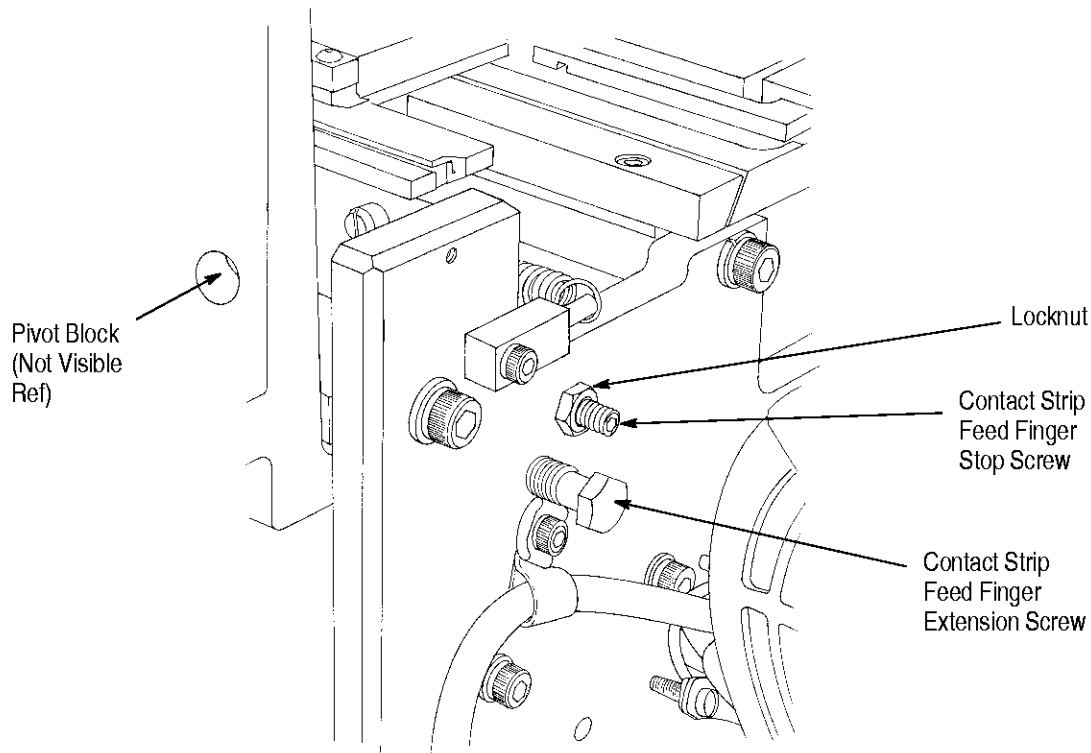

Figure 17
During a machine cycle, the contact strip feed finger extension screw (see Figure 17) controls the forward position of the contact in the crimping section. If the contact is over- or underfed, the crimp fingers will touch the contact as they raise to contain it during the cycle. To adjust the contact strip feed finger, proceed as follows:
The contact strip feed finger stop screw (see Figure 17) limits the feed finger retraction during a machine cycle, allowing the feed finger to pick up the appropriate hole in the strip. If the feed indexes more than one contact or less than one contact, perform the following adjustments:
2. Turn the contact strip feed finger stop screw (see Figure 17) **COUNTERCLOCKWISE** to allow more backstroke, **CLOCKWISE** to allow less backstroke.